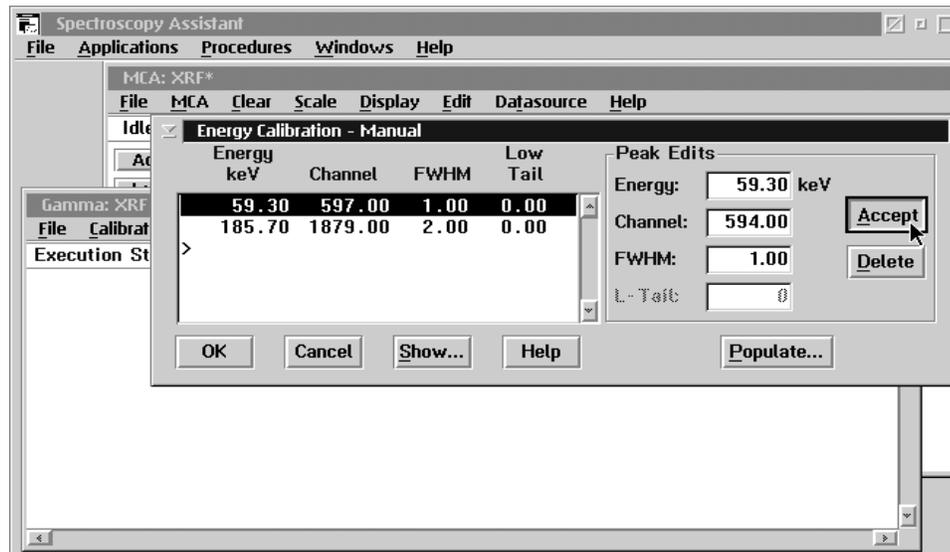

Figure 20. Window showing selection of the “Accept” button after entering the new channel value for the 59.3-keV peak.
26. Once this value is typed in, select the “Accept” button as shown in Figure 20. This enters the new value into the list on the left.